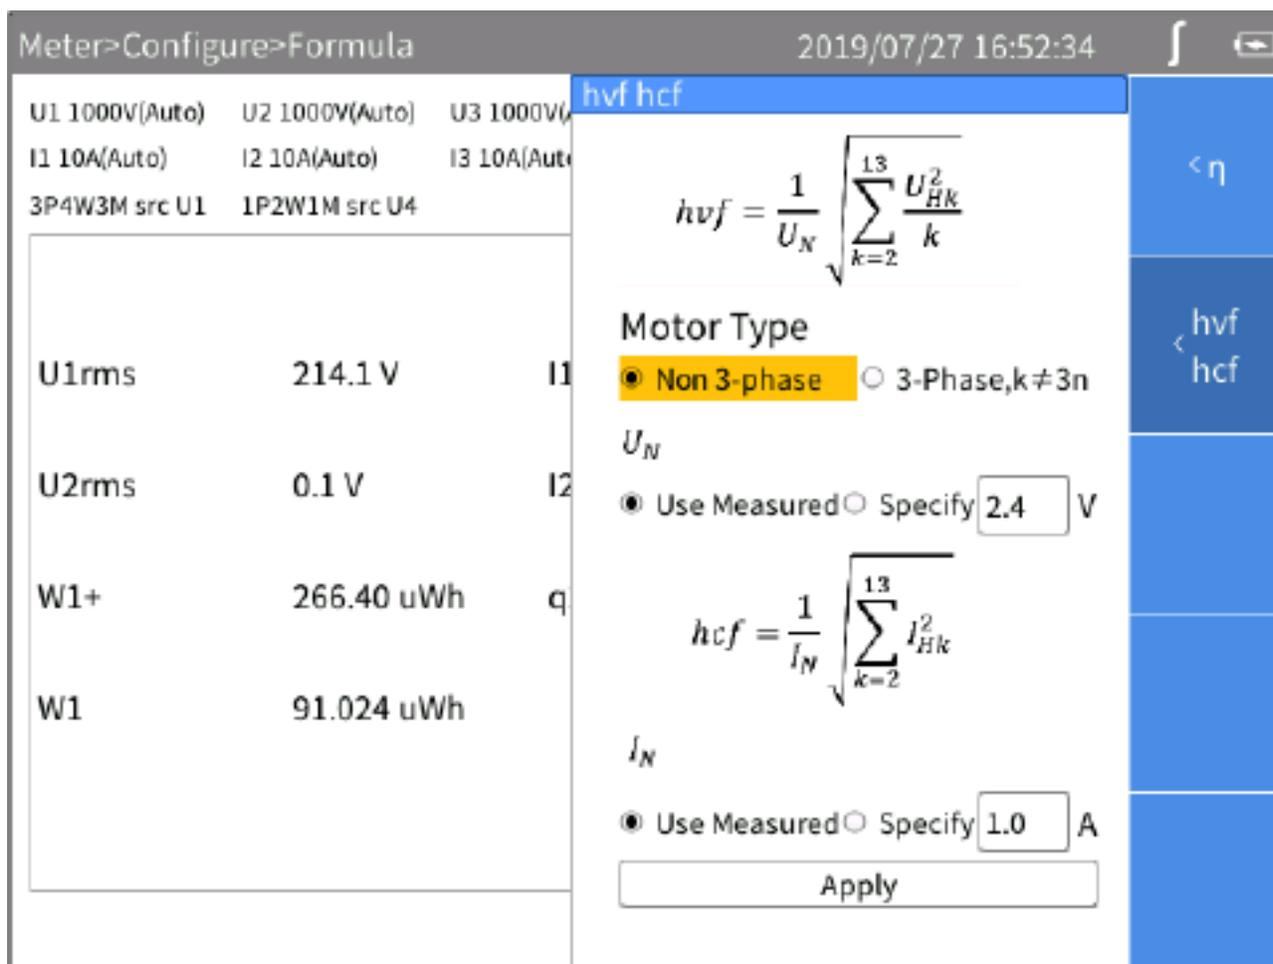

Figure 13. hvf/hcf Calculation Formula
2. The interface of calculation formula definition is as shown in Figure 13. In the hvf/hcf calculation page, the upper part is used to calculate hvf, and the lower part is used to calculate hcf.